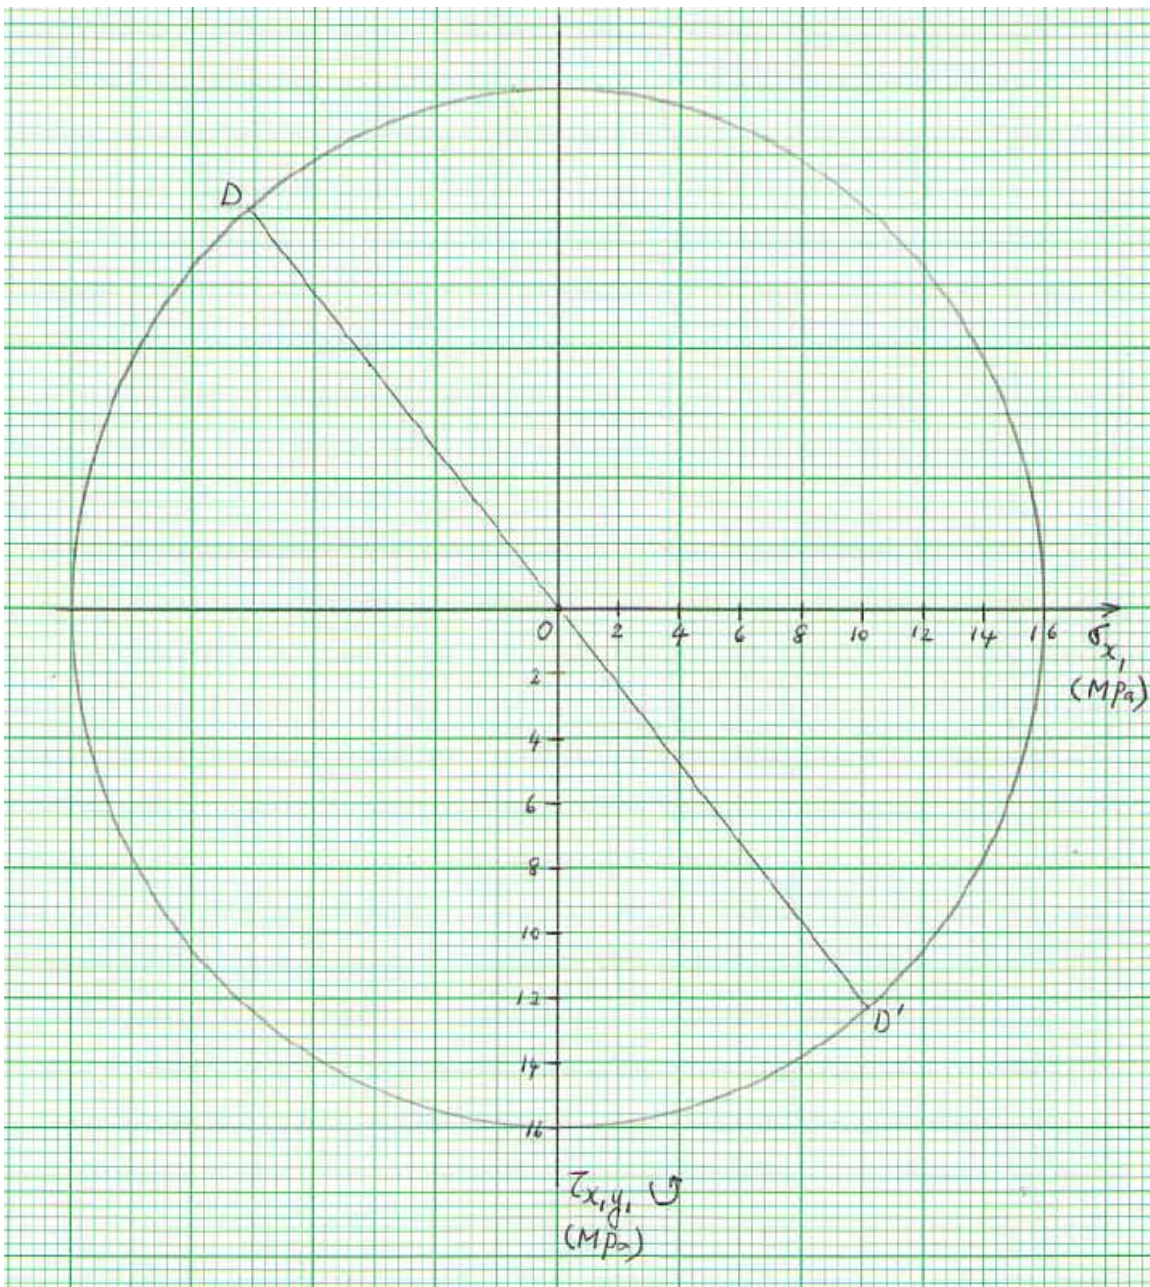

Figure 7
- (b) Figure 7 shows a Mohr's circle drawn for a particular stress state.